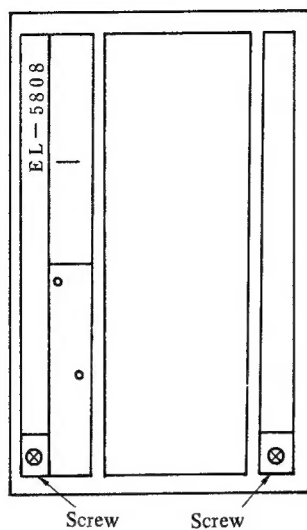

Fig. 1
2. Take out the bottom panel after loosening the two screws that is securing the bottom panel (Fig. 1).